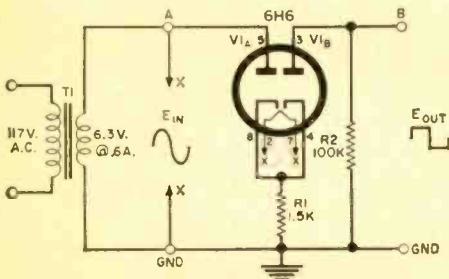

Fig. 2. Schematic of a unit using a twin-diode. If a twin-triode is used, the control grids should be tied to the cathodes.
**Theory of Operation.** The circuit of the square-wave generator is shown in Fig. 2, although its operation is not too obvious from this schematic. A sinusoidal input voltage is applied between point "A" and ground and a square-wave output voltage appears between point "B" and ground. Unlike a conventional sine-wave clipper, this circuit requires no external bias voltage. Instead, the circuit generates its own "bias" voltage, which is then chopped by the input voltage.
**Handle and Trigger.** With the addition of a longer metal band to fit the spray can, the handle from a glass coffee maker can provide a comfortable hand grip. The trigger shown in Fig. 2 is a semi-circular piece cut from  $\frac{3}{16}$ " tempered Masonite. Bolt or rivet it to one side of the handle, and add a bolt near the end to depress the spray-can release.
**Theory of Operation.** The frequency standard shown in Fig. 1 is just such a circuit. It may be redrawn as shown in Fig. 2(A). Reduced to this form it will be immediately apparent that the circuit is nothing more than a transistor version of the simple Colpitts oscillator. Capacitor *C1*, in Fig. 2(A), is made up of both the variable padder and the base/emitter junction capacity. The latter may be quite high—as much as 1000  $\mu\text{f}$ .—with some transistors. Capacitor *C2* in Fig. 2(A) includes the collector-to-ground capacitance of the transistor. These two capacitors form a divider across the crystal. The small capacitor in series with the crystal effectively reduces shunt capacity which would otherwise tune the crystal to a frequency somewhat lower than 100 kc.
Fig 2. (A) The circuit may be redrawn to show a Colpitts-like oscillator configuration. (B) Novel method of obtaining +9 volts from an existing receiver. A portion of the audio output stage cathode bias voltage is used. Filter capacitor keeps audio signals from being fed to circuit.